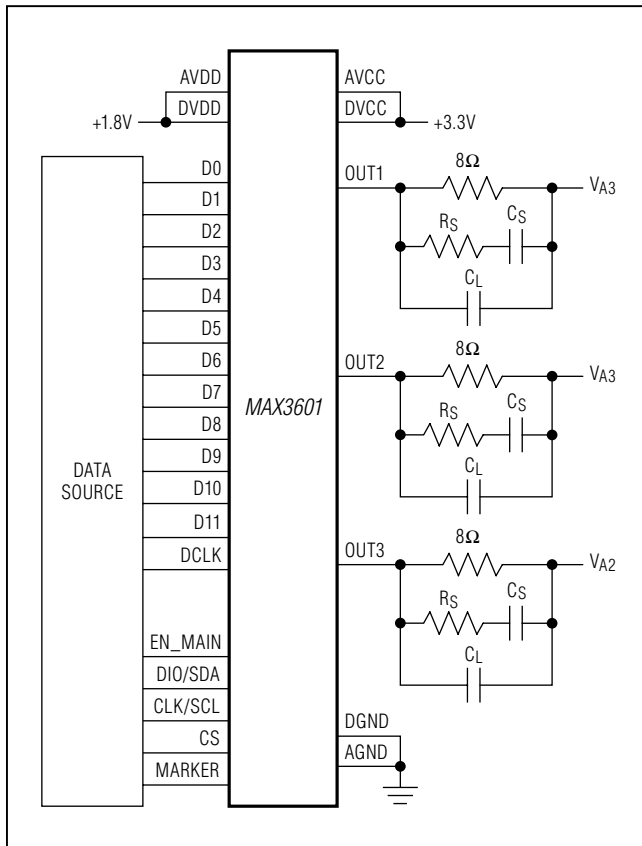

Figure 1. Test Circuit
**Note 2:** Parameters measured using circuit of Figure 1.  $R_S, C_S, C_L =$  open, unless otherwise noted. Parameters in parentheses ( ) are provided for guidance, but are not tested or guaranteed.